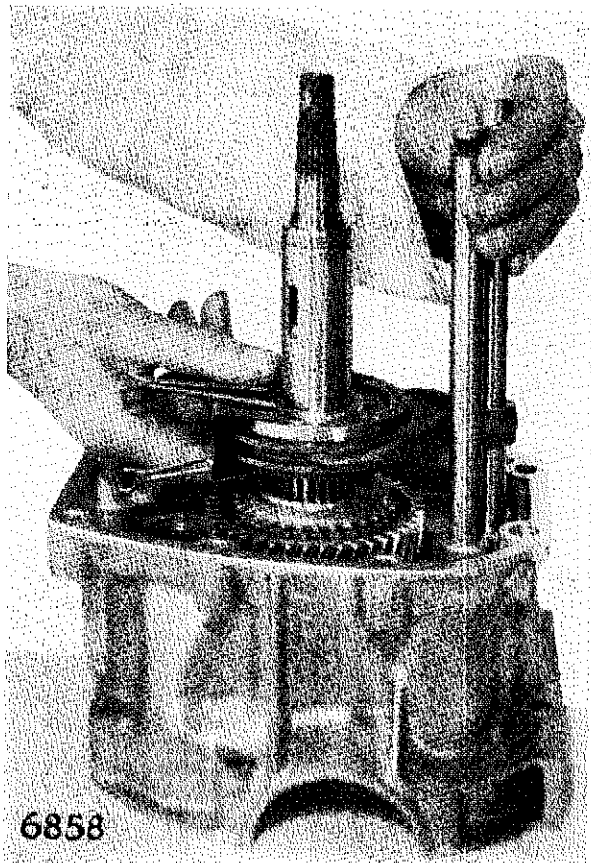

Fig. 19. Remove/refit 1st/2nd synchro hub and selector
Fit keepers and remove 1st/2nd hub assembly (65) together with the 1st/2nd selector shaft and fork (80) and reverse shaft (79), as shown in Fig. 19.